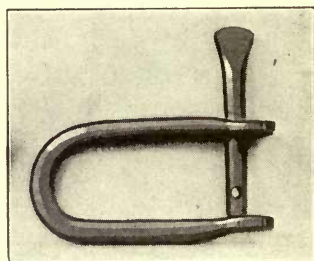

FIG. 27.
7. Mark with a center punch, and drill a $\frac{1}{4}$ -inch hole in the end. Fig. 27 shows the completed clevis.